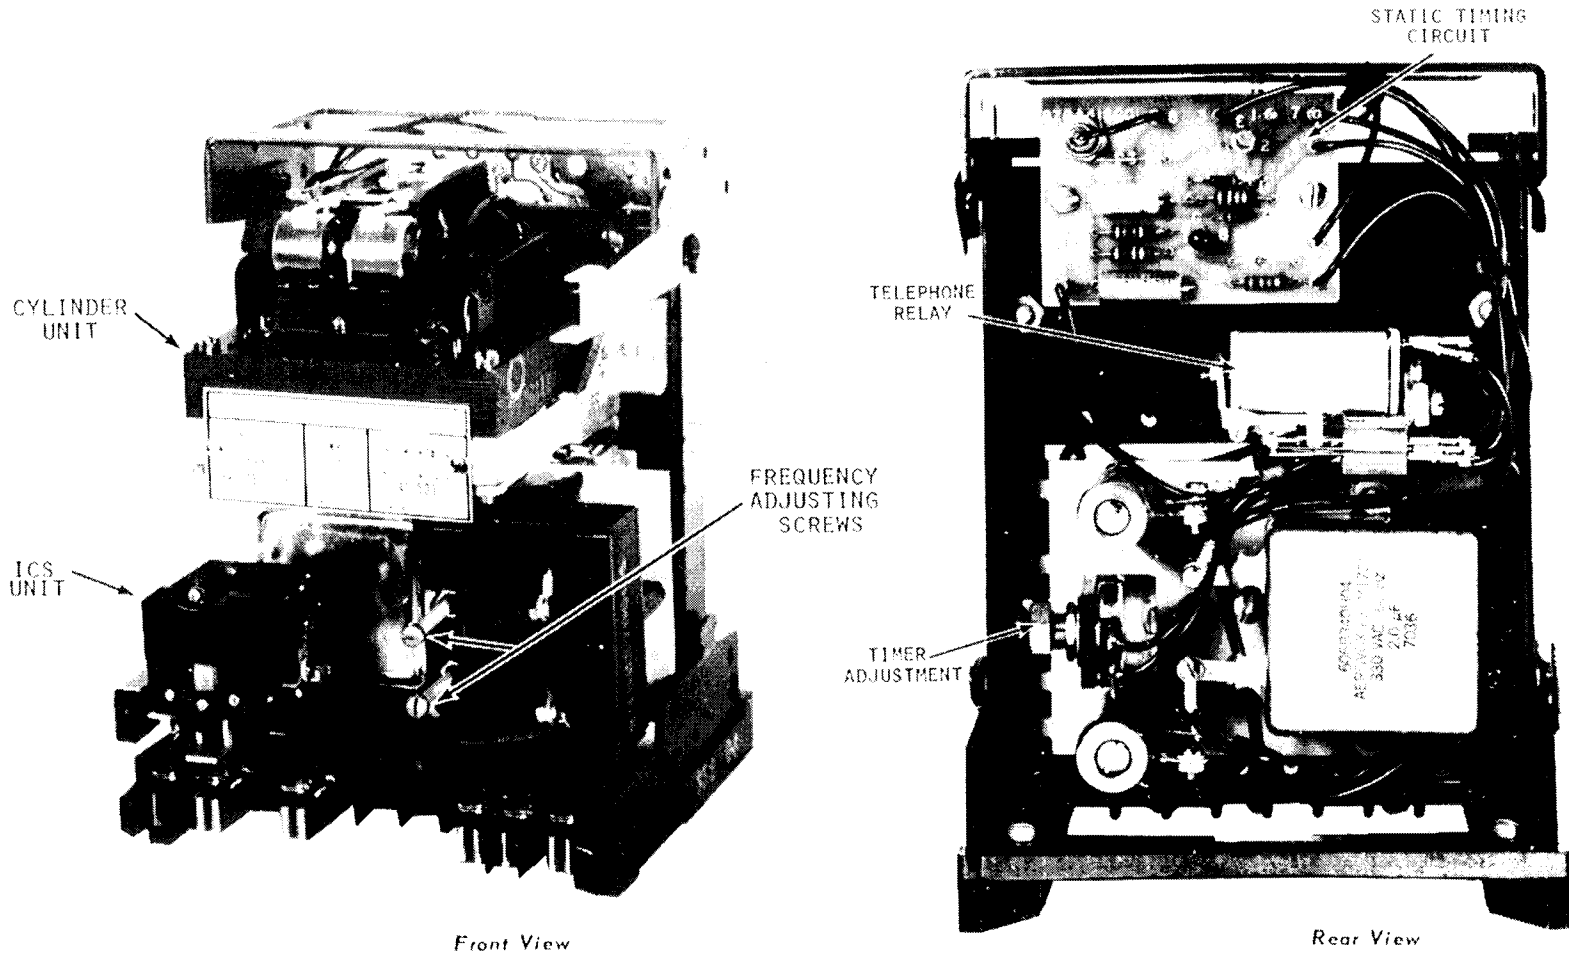

Fig. 1. Type KF Relay for 60 Hertz Without Case. (Front & Rear View)
The relay consists of an induction cylinder unit, frequency sensitive components, indicating contactor switch, and auxiliary time delay unit (T). The principal parts of the relay can be seen in Figure 1.
voltage to approximately 15 volts ac and the T unit should drop out. At rated voltage the time delay obtained should be 6 cycles. The timer can be set to provide up to 30 cycles delay by adjusting the rheostat located on the rear sub base. (See Figure 1). Time vs voltage curves are shown in Figure 9.
Energize terminals 10 and 4 with rated dc voltage. Place switch across KF relay contacts. Closing the switch will now energize the timing circuit. The time delay obtained from the telephone relay should be 6 cycles. The timer can be set to provide up to 30 cycles delay by adjusting the rheostat located on the rear sub base. See Fig. 1.
Set the source frequency to 59.5 hertz and adjust the frequency adjusting screws (see Fig. 1) until the cylinder unit contact closes to the left.